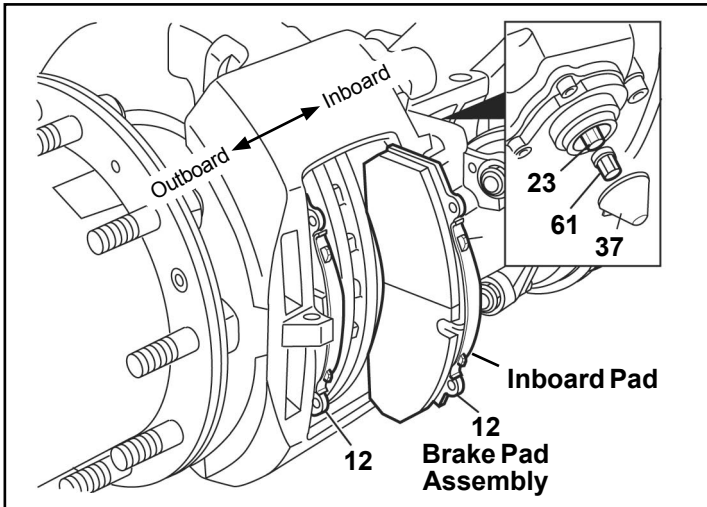

FIGURE 4 - BRAKE PAD REMOVAL
To remove the outboard brake pad (12), slide the caliper (1) fully to the outboard position first. Similarly, to remove the inboard pad, first move the caliper fully to the inboard position, and then remove the pad. See Figure 4.